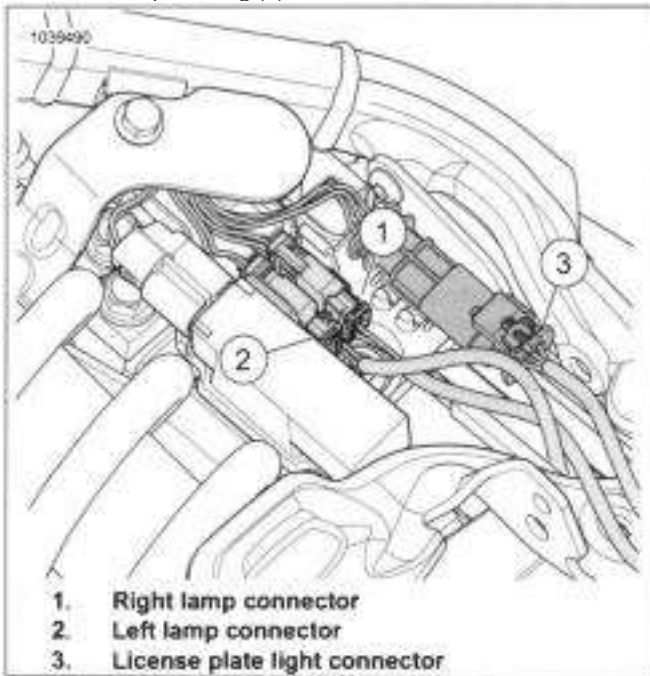

Figure 7-109. Turn Signal Lamp Connectors
1. See Figure 7-109. Disconnect connector (3).
2. Disconnect pins from 3-pin connector (3). See electrical diagnostic manual.
5. See Figure 7-109. Connect pins to 3-pin connector (3). See electrical diagnostic manual.
6. Connect connector (3).